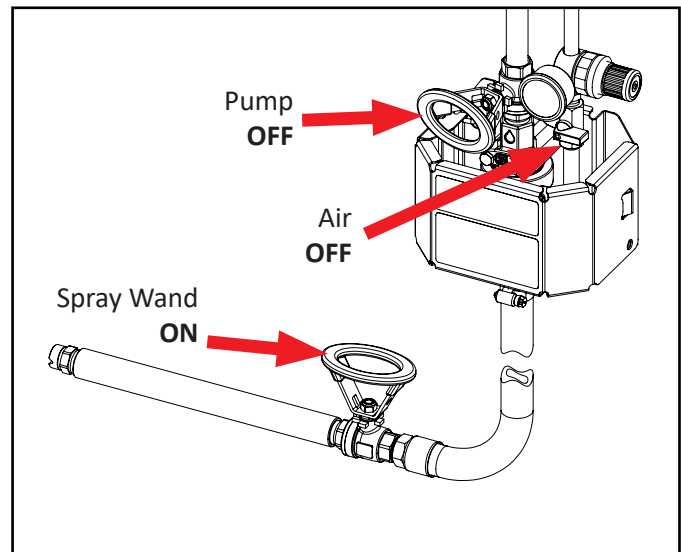

Fig. 6.1: Ball valve positions for start up
1. Ensure foamer is properly connected and the pump and air supply valves are closed [Fig. 6.1]